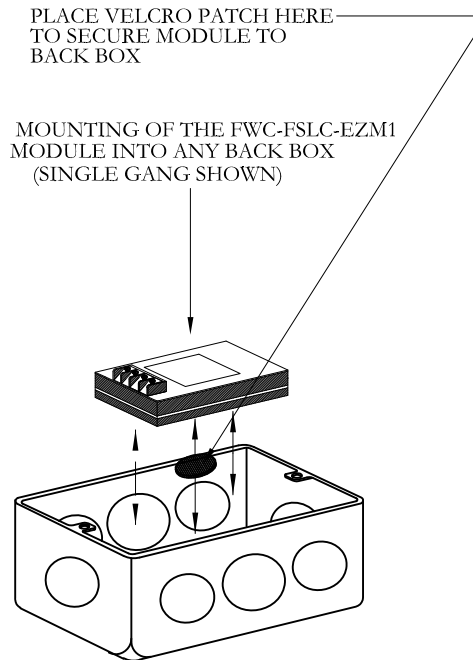

FIGURE 2
The FWC-FSLC-EZM1 is shown in Fig. 2.
- 2) Secure the module to a U.L. listed electrical box (supplied by installer) as shown in Fig. 2.